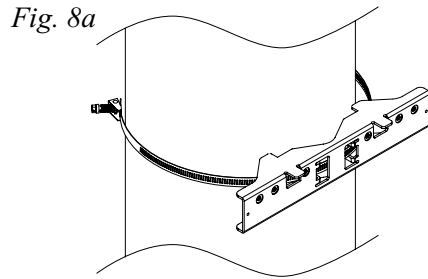
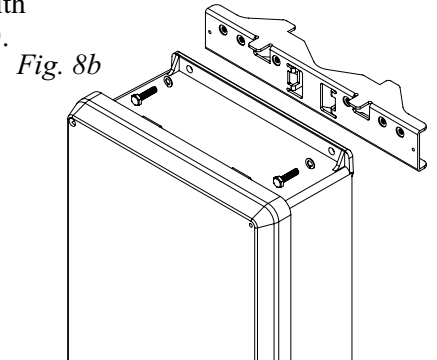

Fig. 8a
Fig. 8b
2. Once the desired height of the top Pole Mount bracket is achieved, tighten the straps down by sliding open end of the strap through the locking mechanism on the strap, then tighten the screw with flat head screwdriver or 5/16" hex socket driver (*Fig. 8a, pg. 8 and Fig. 8b, pg. 8*).
5. Mount enclosure onto the top bracket by inserting bolts through flange of the enclosure and into the bracket, tightening bolts with a 7/16" hex socket (*Fig. 8a, pg. 9*).